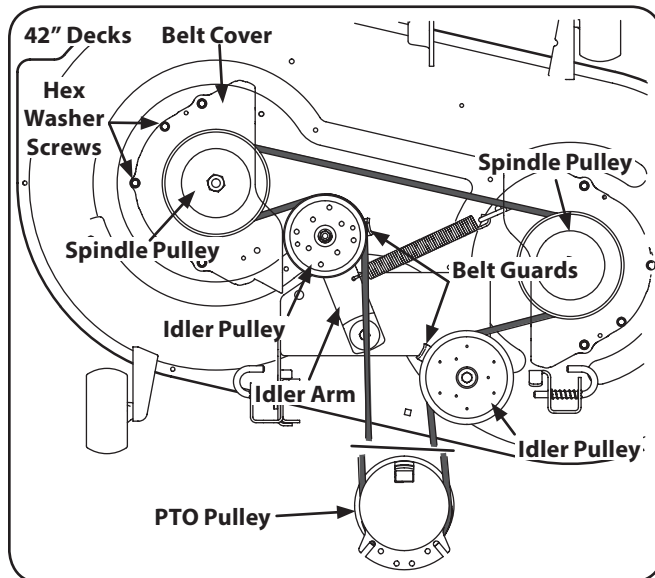
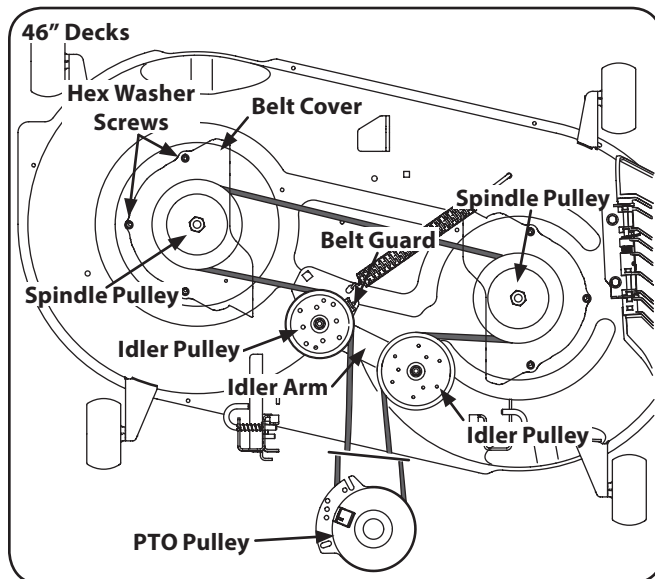
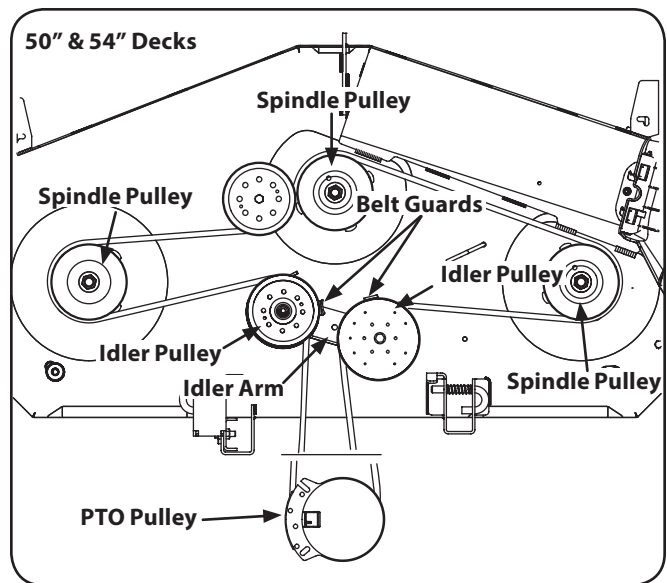

Figure 7-8
Figure 7-9
Figure 7-10
2. Loosen, but do not remove the hardware on the right and left idler pulley. Refer to Figure 7-8 for 42" decks, Figure 7-9 for 46" decks and Figure 7-10 for 50" & 54" decks.